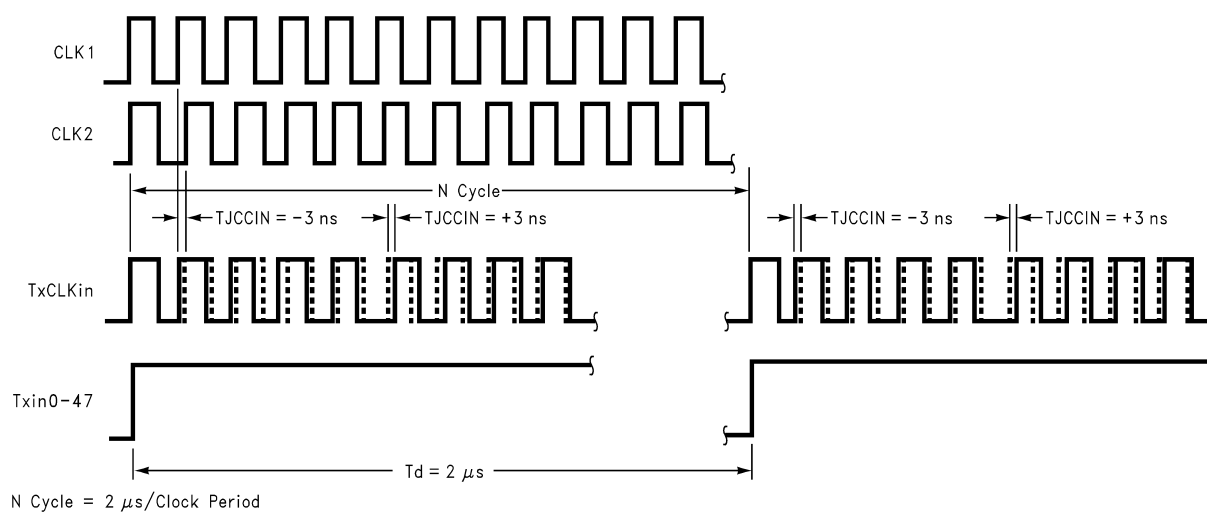

FIGURE 15. Timing Diagram of the Input Cycle-to-Cycle Clock Jitter
**Note 5:** The limits are based on bench characterization of the device's jitter response over the power supply voltage range. Output clock jitter is measured with a cycle-to-cycle jitter of ±3ns applied to the input clock signal while data inputs are switching (see figures 15 and 16). A jitter event of 3ns, represents worse case jump in the clock edge from most graphics VGA chips currently available. This parameter is used when calculating system margin as described in AN-1059.